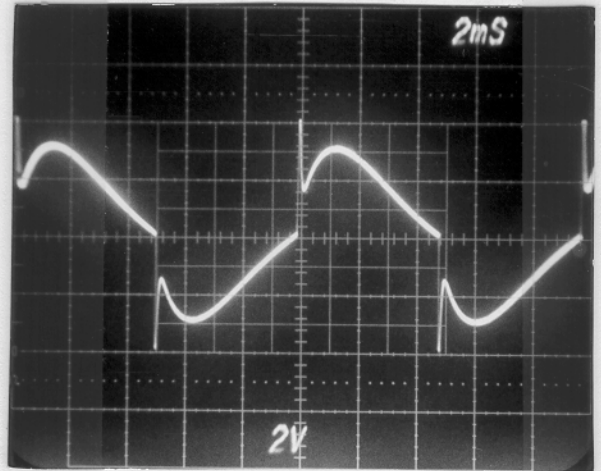
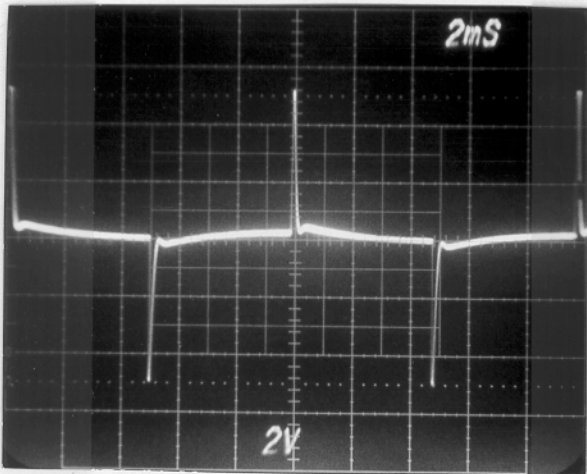

Fig. 8. Bass to 10.
Fig. 9. Bass to 0.
- D) Bass to 10: Fig. 8; Bass to 0- Fig. 9